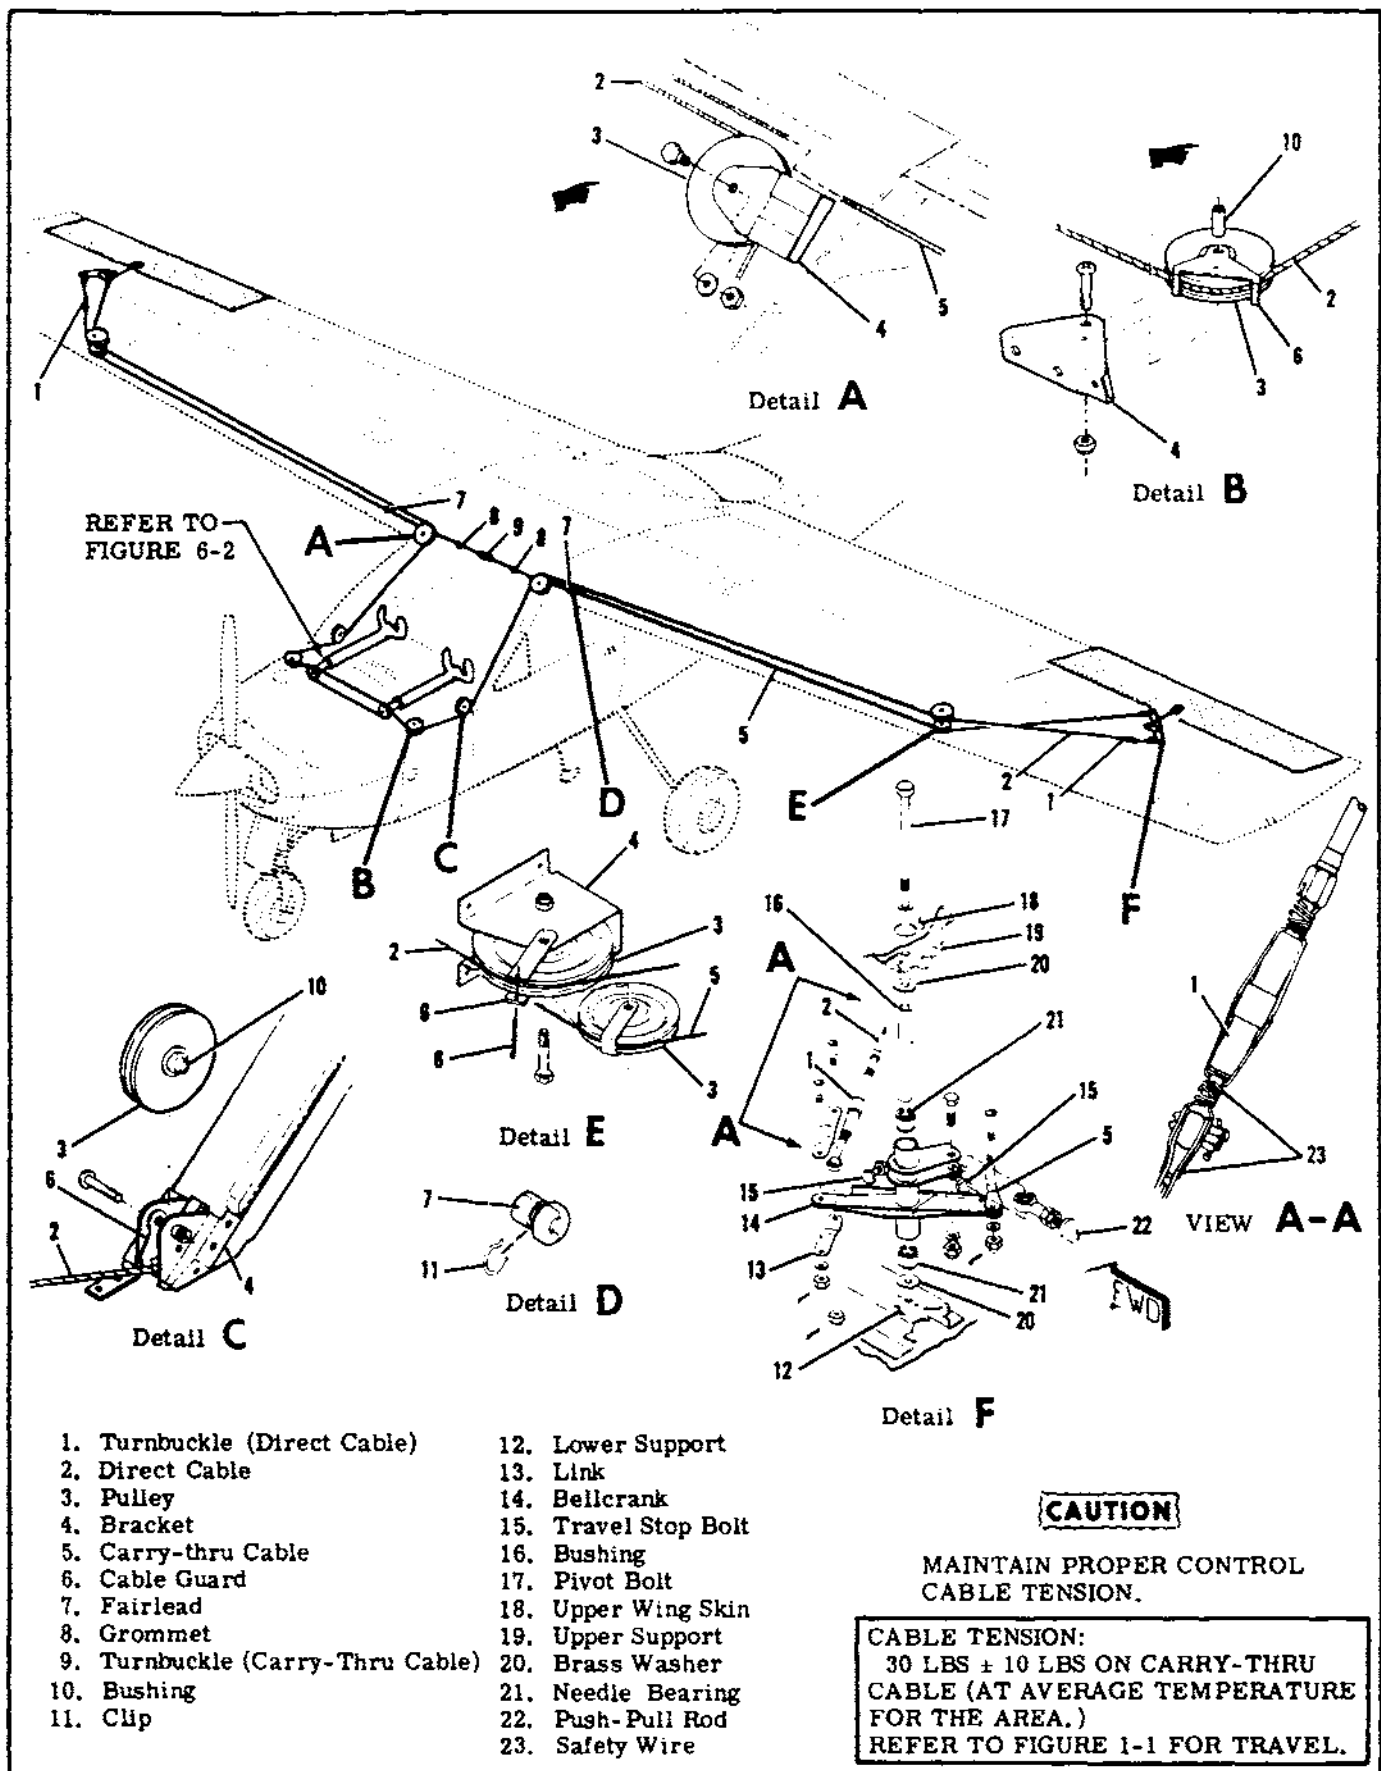

Figure 6-1. Aileron Control System
6-1. AILERON CONTROL SYSTEM. (Refer to figure 6-1.)
- Remove screw securing decorative collar (2) and slide collar forward to expose control wheel mounting screws.
- Remove screws securing control wheel (1) to tube and bearing assembly (14) and remove control wheel. Disconnect electrical wiring to control wheel, if installed.
- Remove screws securing collar (3), spacer (4) and bracket (5) to instrument panel.
- Disconnect link assembly (15) from sleeve weld assembly (11).
- Loosen screw securing adjustable glide plug (38).
- Pull control tube and bearing assembly (14) aft through instrument panel to remove.
- Relieve aileron direct cable (27) tension by loosening turnbuckles (index 1, figure 6-1).
- Relieve transition cable (34) tension by loosening turnbuckle (33).
- Remove roll pin (32) securing tube assembly (36) to quadrant (31).
- Remove nut (28) and washer from tube assembly (36) protruding through bearing block (24) on forward side of firewall (35) and remove tube assembly.
- Disconnect cables from quadrant (31).
- Reverse the preceding steps for reinstallation. Rig aileron and aileron-rudder interconnect systems in accordance with paragraph 6-20, safety turnbuckles and all other items previously safetied. Tighten nut (28) securing tube assembly (36) to firewall snugly, then loosen nut to 0.030" maximum clearance between nut and washer, align cotter pin hole and install pin.
6-8. AILERON BELLCRANK. (Refer to figure 6-1.)
6-12. CABLES AND PULLEYS. (Refer to figure 6-1.)